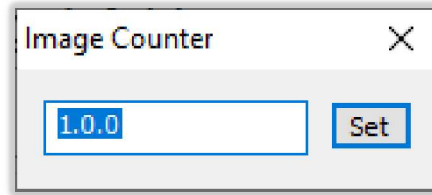

Figure 104
- h. Alternatively, if film has already been loaded, and the blip currently on screen is a known value, use the *Set* button to manually enter the *Image Counter* window. Type in the current mark value in the format *Batch.file.page (1.0.0)*, then click the *Set* button. *Figure 104*